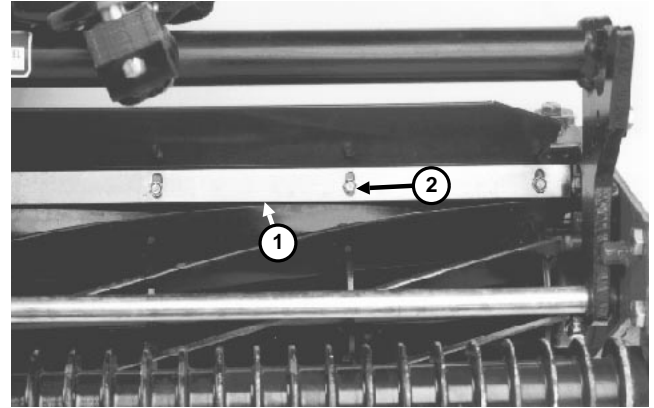

Figure 15
1. Loosen screws securing top bar (Fig. 15). Insert 0.060 inch feeler gauge between top of reel and bar and tighten screws. Make sure bar and reel are equal distance apart across complete reel.